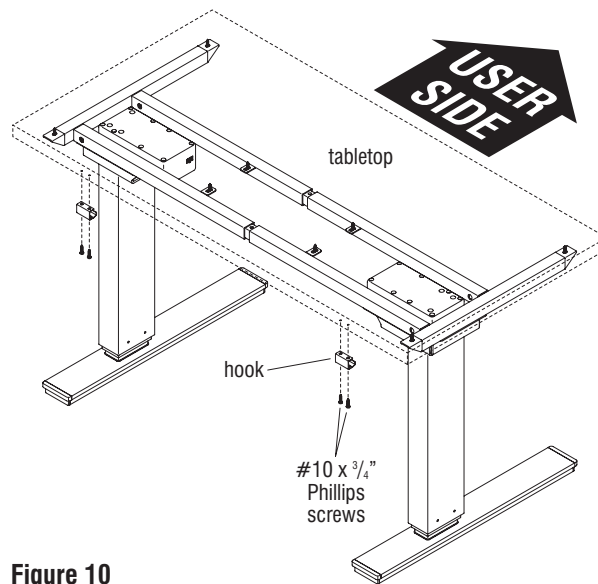

Figure 10
1. Carefully turn table to the upright position (Figure 10).
2. Position one hook underneath the back, non-user side of the tabletop at the pre-drilled location as illustrated in Figure 10 & Detail G. Orient the hook to face the user side of the table. Align the mounting holes of the hook with the pre-drilled holes underneath the tabletop and secure using two #10 x 3/4" Phillips screws. Repeat this process to secure the remaining hooks to the table (Figure 10 & Detail G).